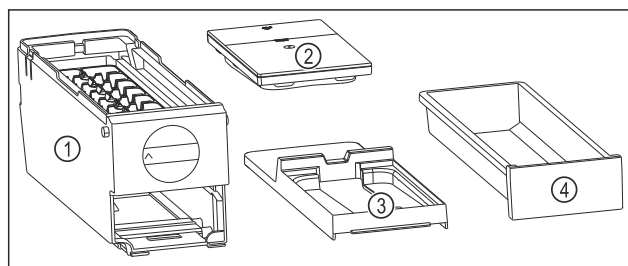

Fig. 160 Components of the EasyTwist-Ice
- EasyTwist-Ice is dismantled into four parts. (see Fig. 160)
- Only dismantle the EasyTwist-Ice into the components shown. (see Fig. 160)
- Clean the EasyTwist-Ice body Fig. 160 (1) as a whole.